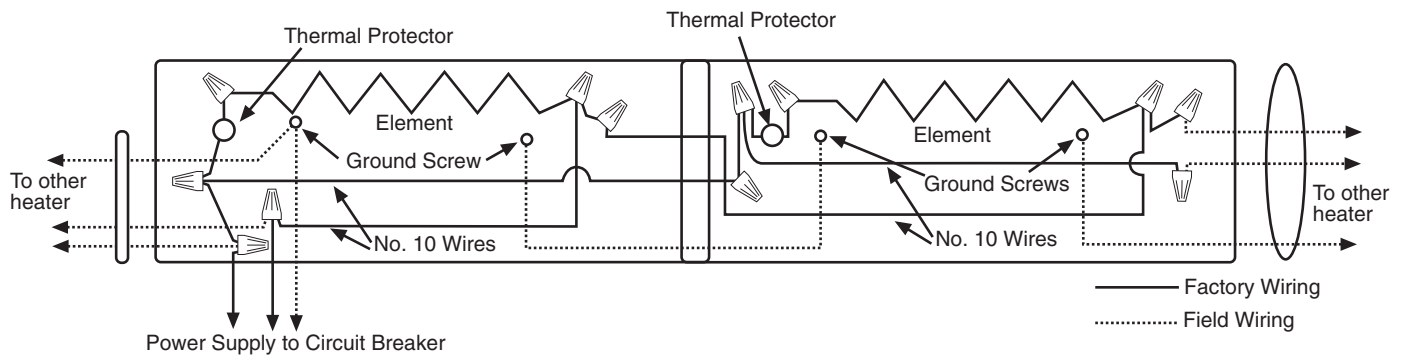

Fig. 8
2. Wiring procedures and connections must be in accordance with the National Electrical Code (NEC) and local codes. Refer to Wiring Diagram on heater and Figure 8. Make sure all electrical connections are tight to prevent possible overheating. Use Copper Supply Wire Only.
9. Following the wiring diagram secured to the heater, make the electrical connections. Refer to Fig. 8 to connect the other heaters in parallel. Grounding of the other heaters is accomplished by connecting a jumper wire (not supplied) between the two adjacent heaters.
IMPORTANT NOTE: These heaters are provided with a built-in safety limit (Thermal Protector— see Fig. 8) to automatically turn off the heater if it is blocked or otherwise overheats due to an abnormal condition. The heaters should not be cycling off on this safety control during normal use. If this is occurring, check heater installation to assure it has adequate clearances and the free airflow around heater is not restricted. If heater continues to cycle on this safety control, discontinue using until it can be inspected and/or repaired by a qualified electrician.